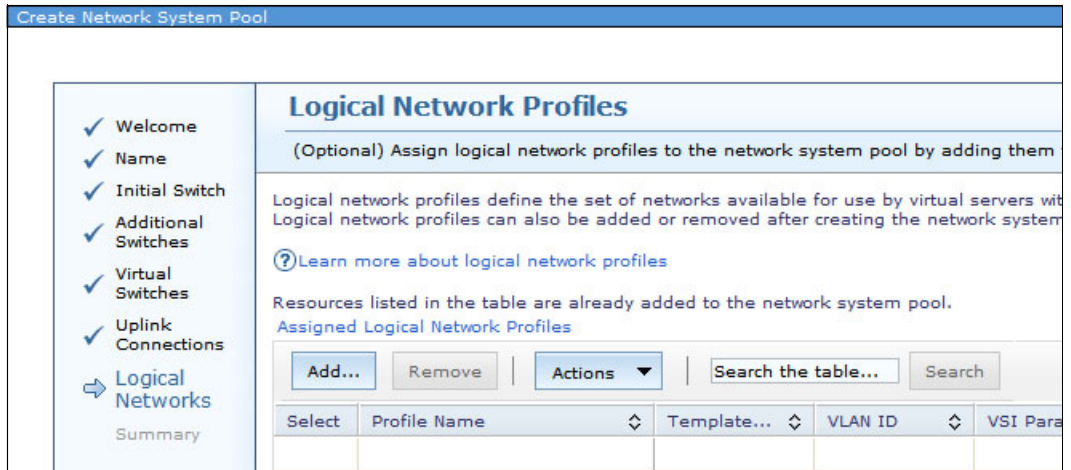

Figure 9-87 Create Network System Pool: Logical Network Profiles
11. Assign the logical network profile created earlier by clicking **Add**, as shown in Figure 9-87 on page 364.